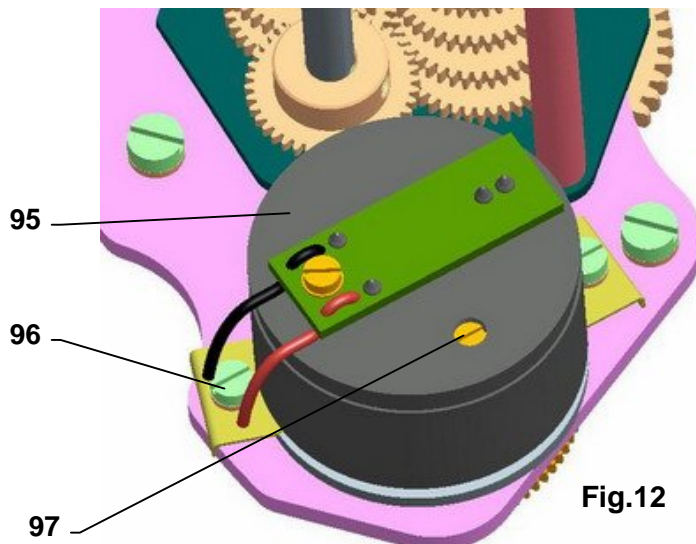

Fig.12
4.7 Adjustment of Capacitive Transmitter CPT1/A (Fig.12)
The trimmer (97)(Fig.12)) can be used to adjust the output signal of the capacitive transmitter to any value of operating revolutions in range from ca 50% up to 100% of the max. value of the operating revolutions on the competent degree according to table Nr.3.